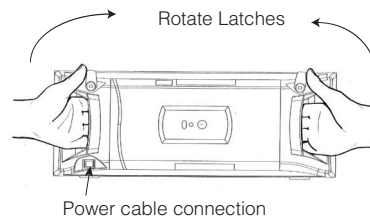

Figure 10 Rotating Door Latches
Step 1: To remove the door, hold handles and rotate latches as shown in Figure 10.
Handle the door only by using the handles on the front of the door. Grasp the door by the handles as depicted in Figure 10 to remove and replace the door. Do not handle the door on the edges. Metal edges may be sharp and could result in injury if the door is not handled properly.